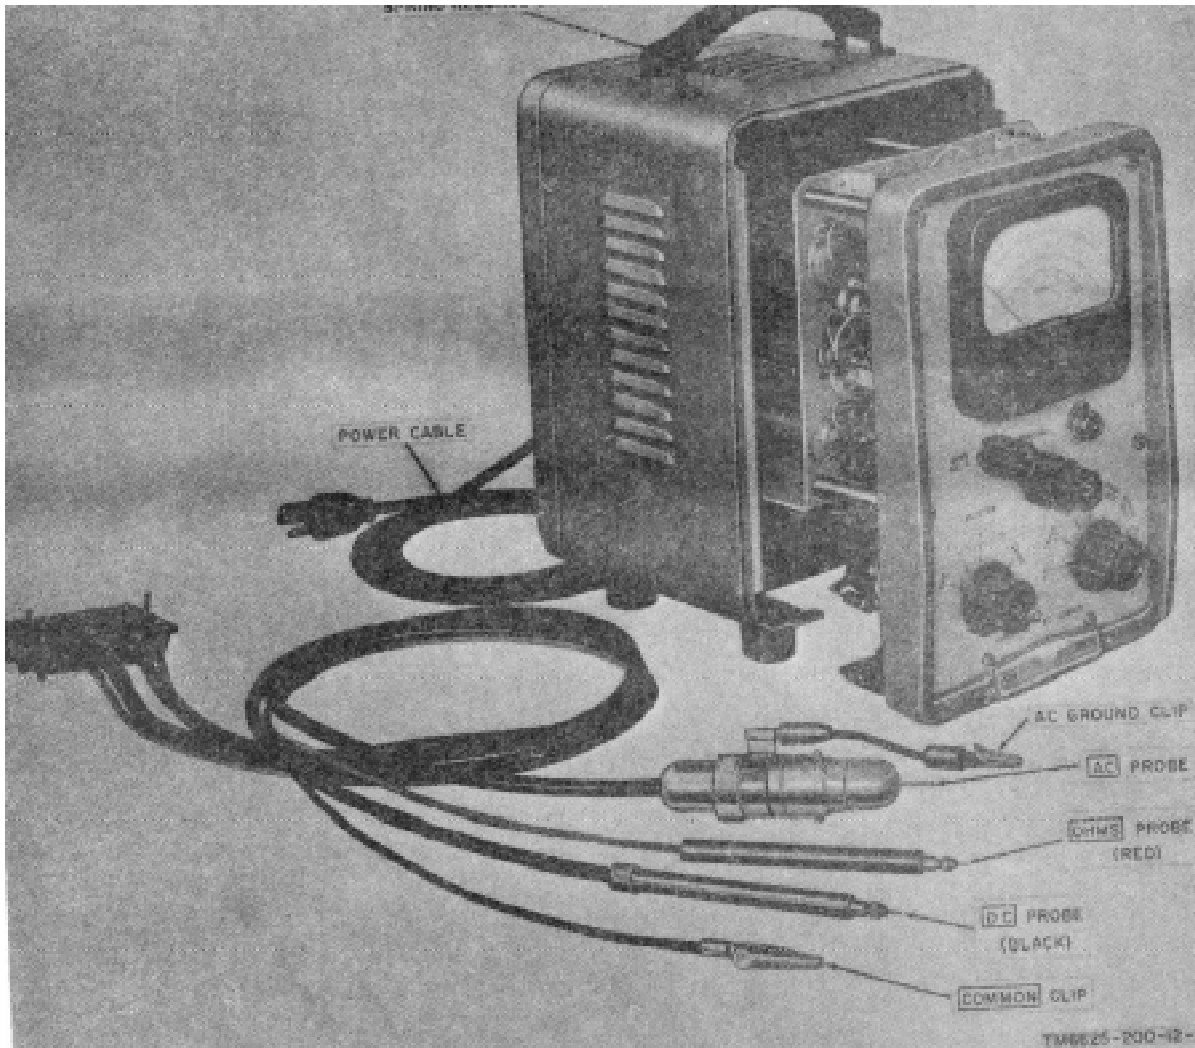

Figure 1-2. Multimeter ME-26A/U, withdrawn from cabinet, lens running spares.
(1) Remove the rear cover by pressing the spring-release button on the top rear of the case (fig. 1-2).
(2) Remove the retaining screws that hold the main chassis to the cabinet (3) Remove the chassis by gently sliding it forward out of the case.